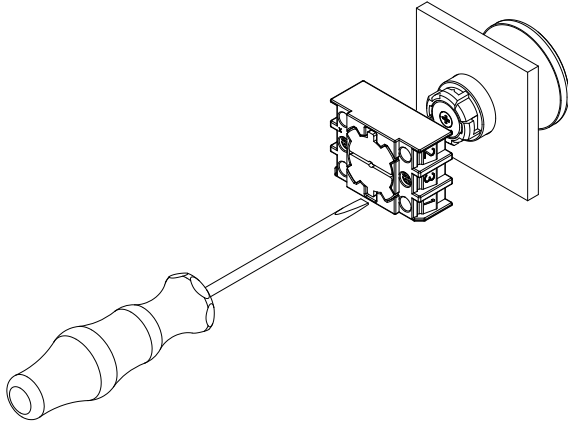

Fig. 1
1. Mount control elements and mounting flange by tightening both screws of mounting flange using size 2 cross-point screwdriver (see fig. 1)